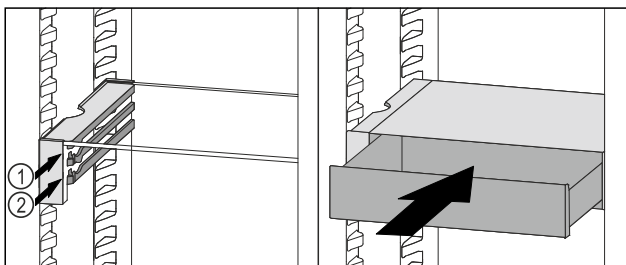

Fig. 58
- Place the VarioSafe drawer behind the stoppers on desired rib Fig. 58 (1) or Fig. 58 (2).